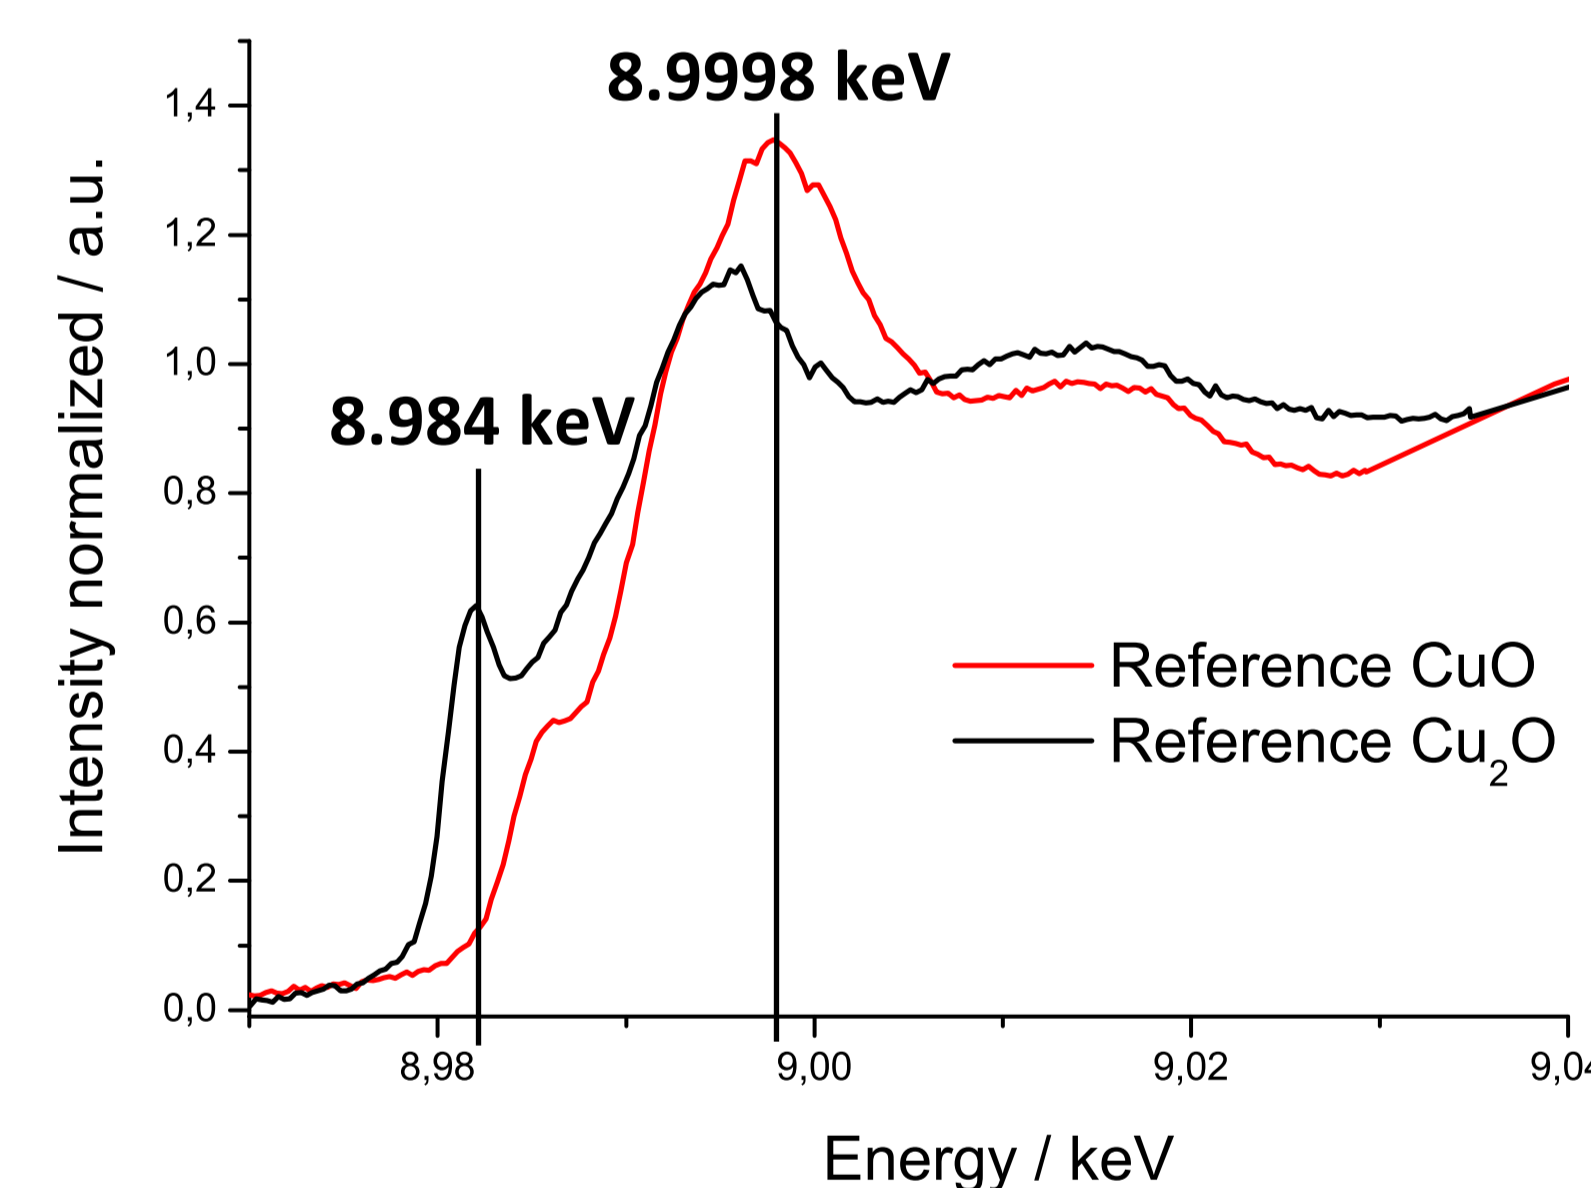

Figure 4: XANES spectra of Cu_2O and CuO
- for certain **marker energies** some compounds are more sensible than others (e.g.: for **8.984 keV** Cu_2O is more sensible and for **8.9998 keV** CuO is more sensible \rightarrow **Figure 4**)
- different XANES spectra for Cu_2O (layer 1 and 3) and CuO (layer 2) \rightarrow **Figure 4**
- find marker energies where absorption differs \rightarrow **Figure 4 vertical lines**